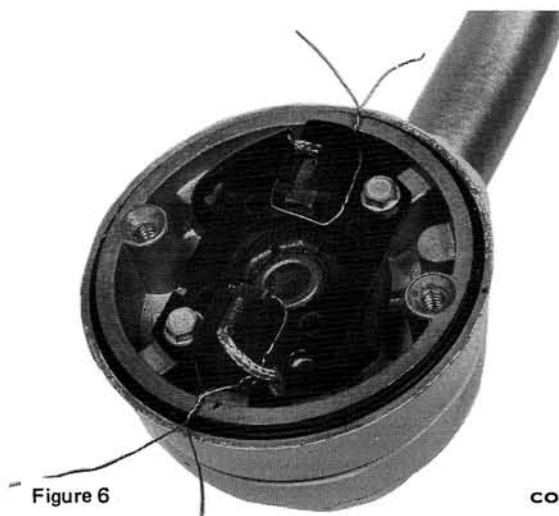

Figure 6
12. Reinstall brush holder. Install brushes with groove for wire up. Tie them in place with fine wire or string. See Figure 6.